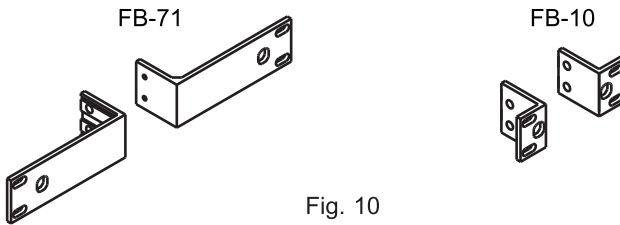

Fig. 10
2. Optional rackmount kits for one 1/2RU receiver or rackmount kits for one 1RU receiver. Fig. 10